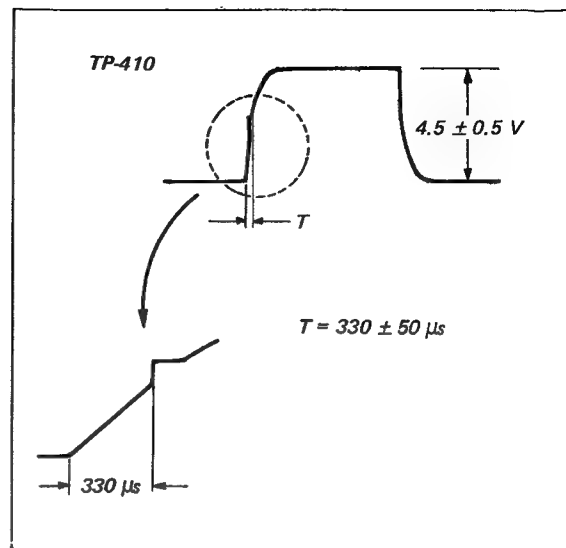

Fig. 6-4. Lock phase adjustment (REC/E-E mode)
Adjust for: See Fig. 6-4.
4. Adjust the POSITION control on the scope to observe the interval "T" in Fig. 6-4.